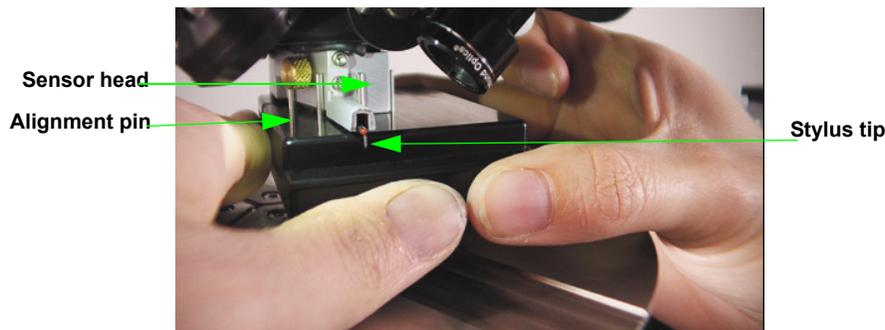

Figure 3-19: Stylus Exchange Tool Flush with the Bottom of the Sensor Head
- 8 Position the stylus exchange tool beneath the sensor head (see Figure 3-19).
- 9 Holding the stylus exchange tool by its sides, align the alignment pins on its top with the outside of the front of the sensor head (see Figure 3-19). Gently push up until the tool is flush with the bottom of the sensor head. The ridge at the back of the stylus exchange tool must roughly line up with the back of the sensor head. The stylus tip should extend out through the front of the channel on the exchange tool.